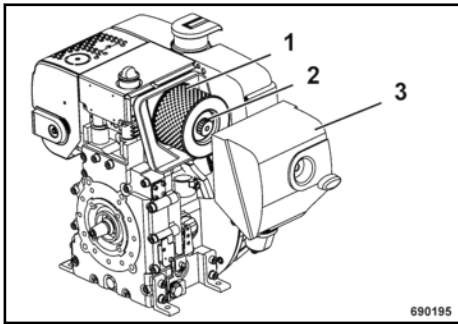

Fig. 45
Remove the filter cover (3) ↗ Fig. 45.
Insert the air filter (1) ↗ Fig. 45 into the housing and fasten it with the knurled nut (2).